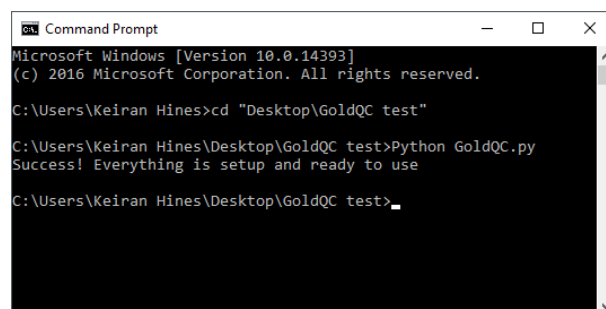

Figure 3:Running GoldQC test
3. Open Command Prompt and navigate to your test directory and run "Python GoldQC.py. If everything is configured correctly you should see a message saying "Success! Everything is setup and ready to use". See Figure 3.